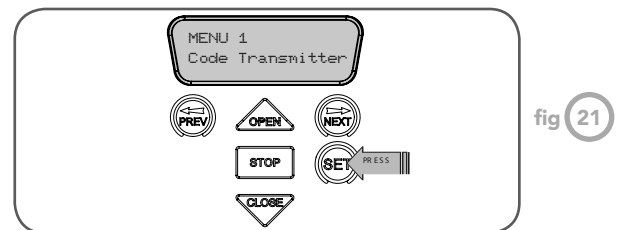

fig 21
1. Press NEXT to navigate to Menu 1 (**Fig. 21**).